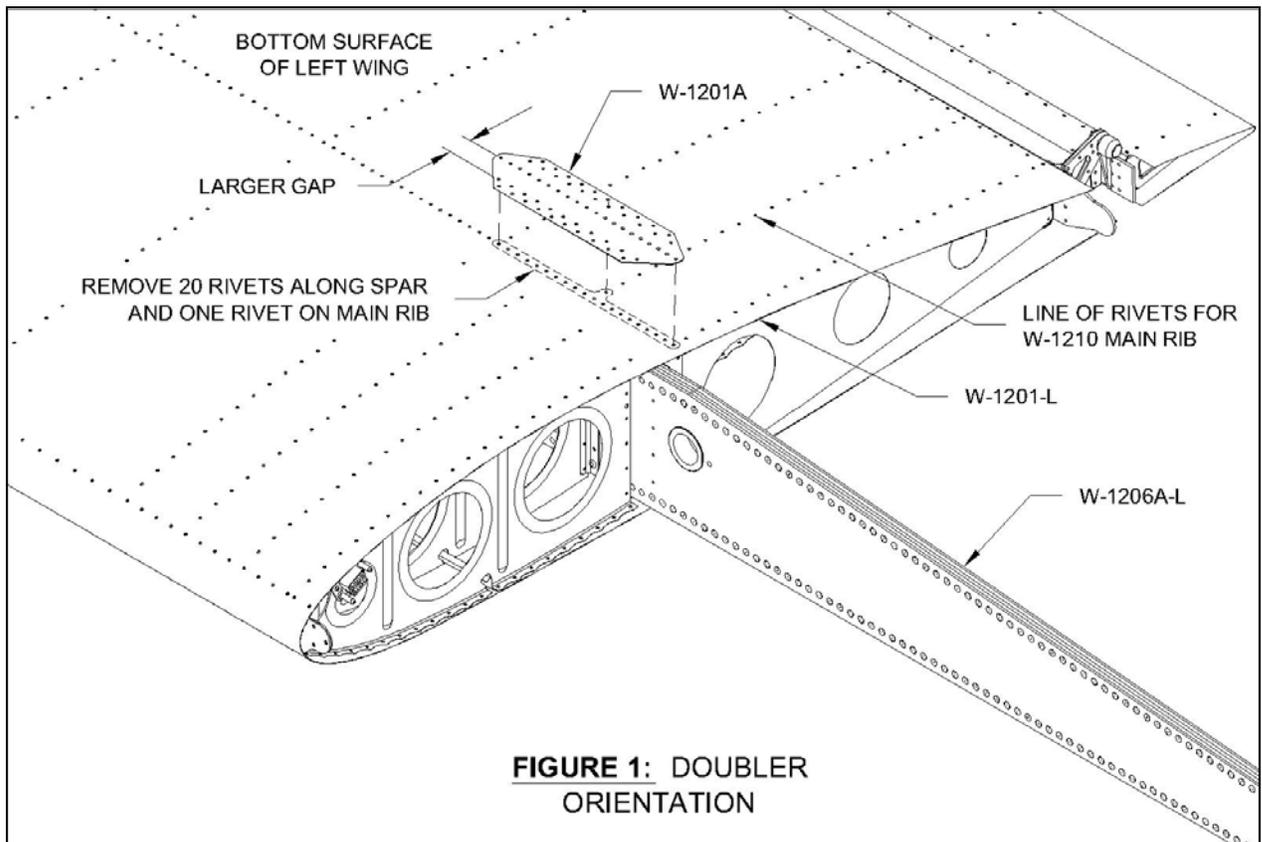

FIGURE 1: DOUBLER ORIENTATION
Step 3: Carefully remove the inboard 20 rivets attaching the W-1201-L Inbd Wing Skin to the flange of the W-1206A-L Spar Assembly and the single indicated rivet attaching the skin to the W-1210 Main Rib. See Figure 1.
Step 6: Cleco the W-1201A Doubler, oriented as shown in Figure 1, to the skin and spar flange with the larger gap between rivet rows forward, and with the hole for the main rib aligned with its corresponding hole in the doubler.